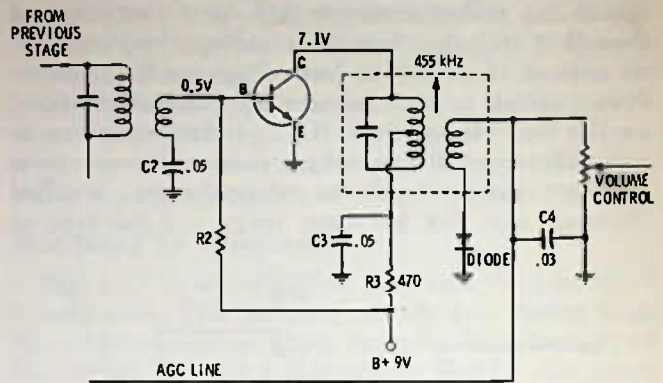

Fig. 11-11. Circuit for Questions 13 through 16.
13. In Fig. 11-11, the easiest way to check if the transistor is drawing current would be by
14. In Fig. 11-11, when the signal strength increases, the voltage across the volume control, and, consequently, the agc voltage will go more
15. In Fig. 11-11, the current through the collector circuit of the transistor is about
16. The circuit shown in Fig. 11-11 could logically be called